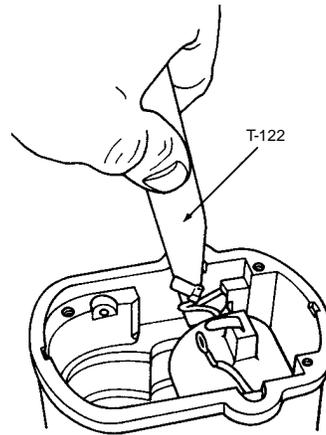

Figure 6.10
- B. Using coil wedge extractor T-122, remove coil wedges and lift out coil. (See Figure 6.10.)